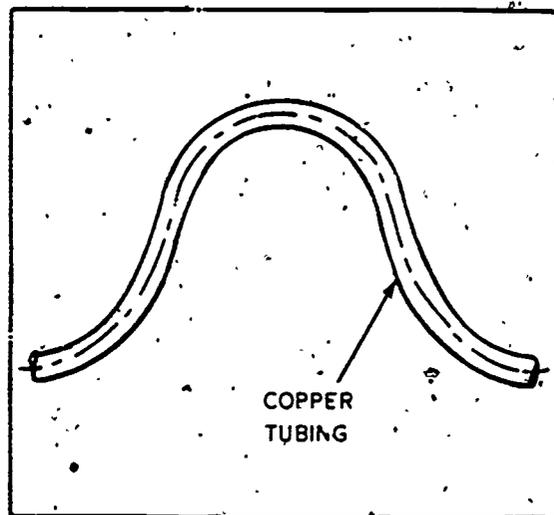

Figure 1-24. Expansion loop.
**Expansion loop.** When copper tubing is used to fabricate the water supply, an expansion loop, shown in figure 1-24, should be formed in the line near the connection to the corporation stop—this to be used instead of the copper or lead connectors or swing joints. Be careful to insure that no part of the expansion loop will be above the frostline after the trench is backfilled.
**Exercises (405):**